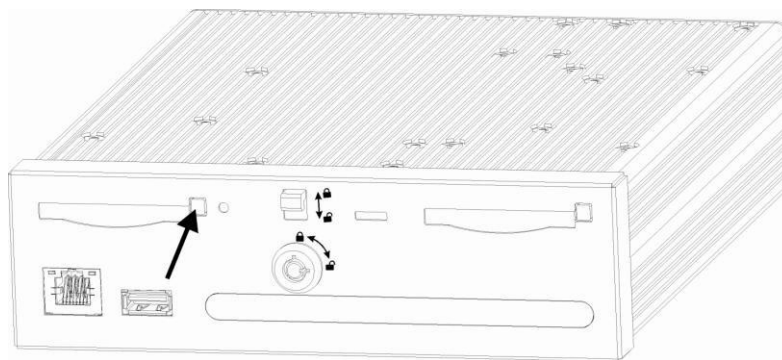

Figure 3-5
2) Press down the CF card case and push the handspike down. Use the screwdriver to push the CF card slot in Figure 3-5.